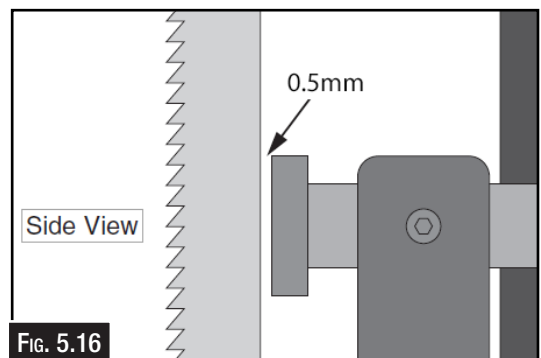

FIG. 5.16
3. Familiarize yourself with the support bearing controls shown in Fig. 5.16
5. Adjust the support bearing 0.5mm away from the back of the blade, as illustrated in Fig. 5.16